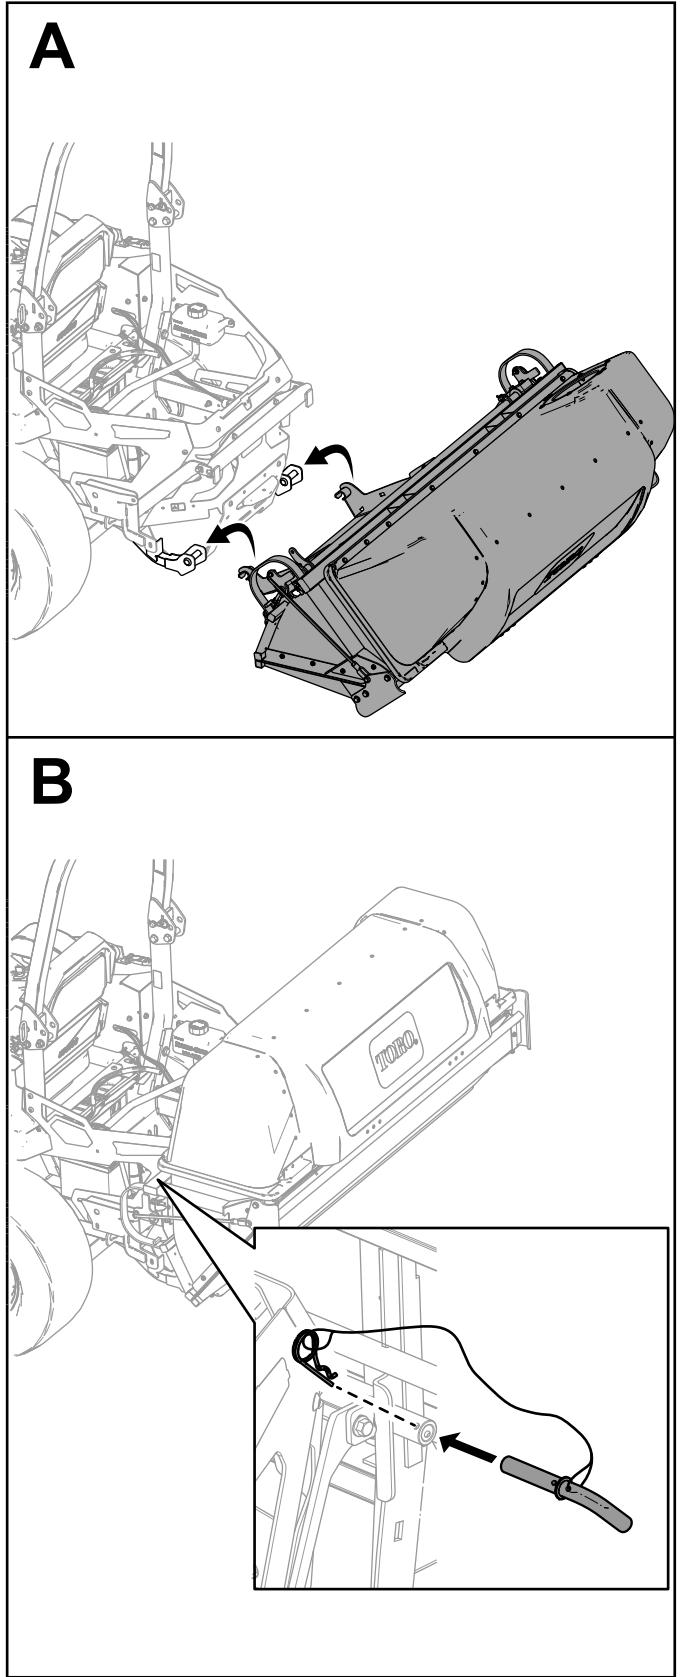

Figure 15
4. Slide the hooks onto the lower mounting bracket (Figure 15).
5. Rotate the hopper assembly onto the lower hopper mounting bracket (Figure 15).
7. Install the pin and secure it using the hairpin cotter on both sides (Figure 15).